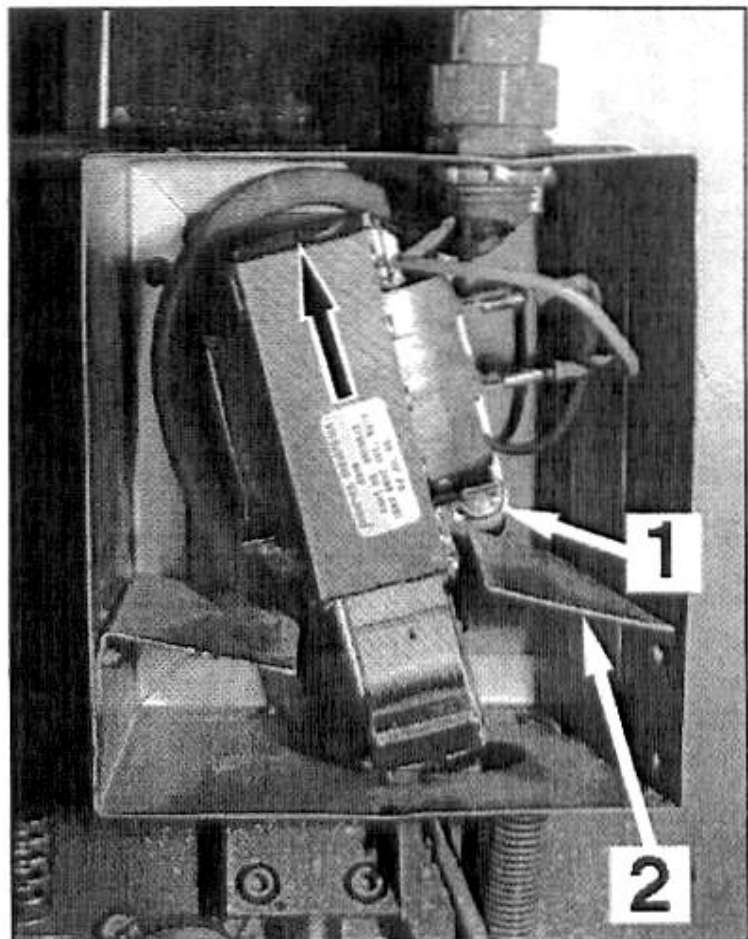

Figure 1
First, remove the old solenoid. Disconnect the mechanical linkage, connected to the solenoid. Disconnect the two wires that power the solenoid. Remove the four bolts and nuts that hold the solenoid to the assembly. Figure 1 item 1 shows one of the four bolts that mounts the four corners of the solenoid to the assembly.
the four solenoid mounting holes inside the box. Elongate the mounting holes one quarter of an inch in the direction of the black arrow in figure 1.